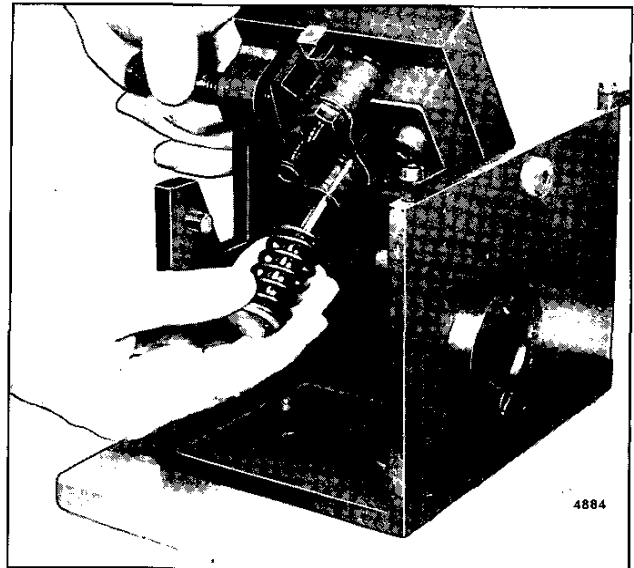

Fig. 11 - Removing or Installing Plunger Follower, Plunger and Spring
3. Refer to (Fig. 11) and remove the plunger follower, plunger and spring as an assembly.